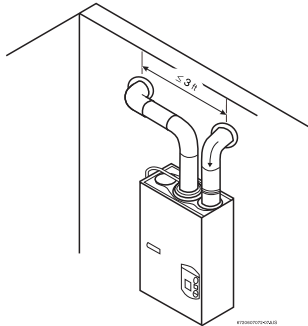
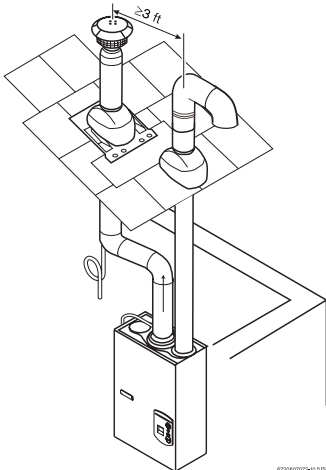

Fig. 14 Horizontal twin pipe termination
Fig. 15 Vertical twin pipe termination
- ▶ To reduce pressure differentials between the exhaust and combustion air intake, it is recommended that both terminators exit on the same plane. See Fig. 14 for an example horizontal twin pipe termination and Fig. 15 for the vertical twin pipe termination example.
- ▶ Use of two 90° elbows (candy-cane) is an acceptable termination for combustion air intake from the roof. See Fig. 15 for an example.